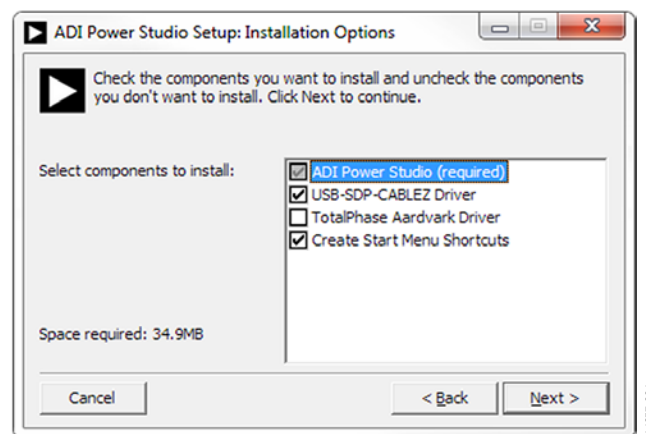

Figure 4. Installation Options
3. In the **ADI Power Studio Setup: Installation Options** window, see Figure 4, **ADI Power Studio (required)**, **USB-SDP-CABLEZ Driver**, and **Create Start Menu Shortcuts** are preselected. If the USB-SDP-CABLEZ driver is already installed, uncheck the **USB-SDP-CABLEZ Driver** checkbox.